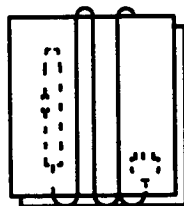

Fig. 2
3. Fold the material over the pencil body and proceed to coil the cord around the material lengthwise. (Fig. 2)